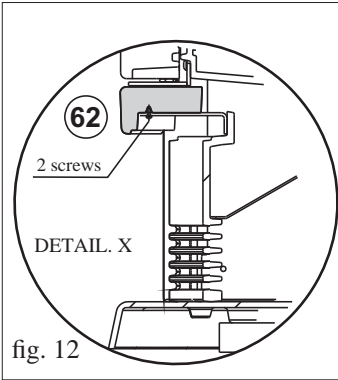

fig. 12
- Use the supplied Allen key to loosen the screws that hold the cast iron lower front grill (4) in place and remove it.
- Position the front panel (62) and use an Allen key to fasten it in place using the 2 supplied M6x25 screws as indicated in detail “X” (fig. 12).